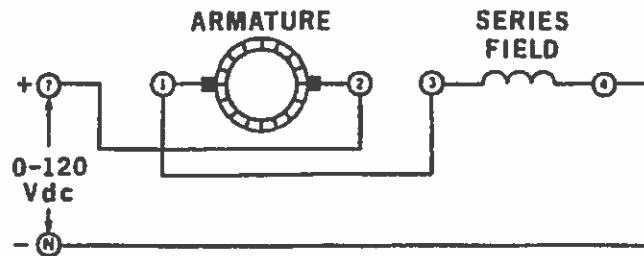
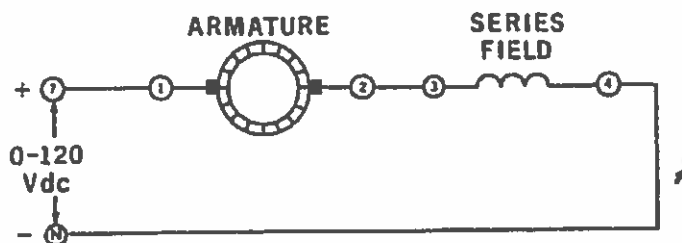

Figure 12-3.
Figure 12-2.
5. Using your Power Supply, DC Voltmeter/Ammeter and DC Motor/Generator, connect the circuit shown in Figure 12-2. Notice that the armature is connected in series with the series field winding, across the input voltage.
- ✓ 10. Repeat procedures 6 through 8 (using the reversed armature connections shown in Figure 12-3).
- ☒ 9. Reconnect your circuit as shown in Figure 12-3. (The only change made to the circuit of Figure 12-2 is that the connections to the armature have been reversed).